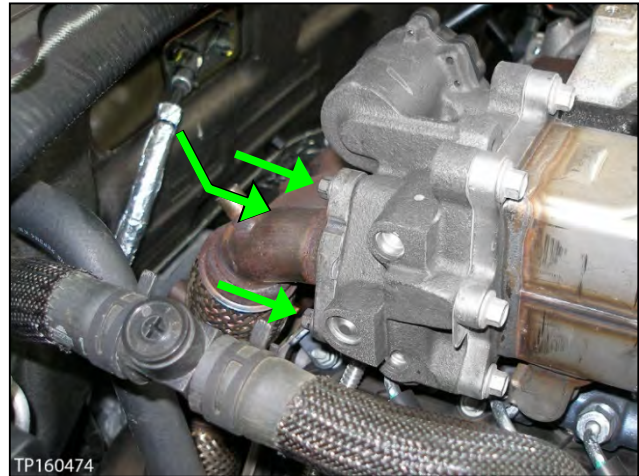

Figure 30
18. Remove the three (3) EGR valve inlet pipe bolts (see Figure 30).
- The third bolt cannot be seen in Figure 30.